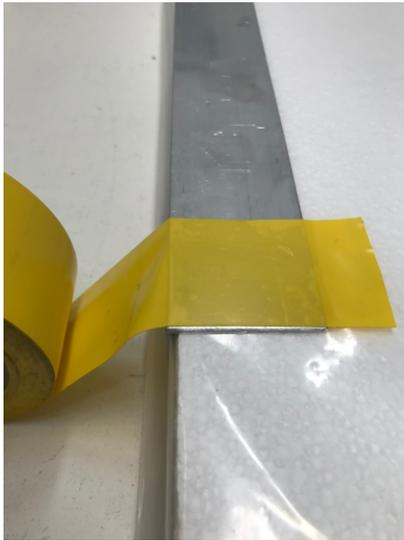

Figure 7
**Step # 4** - Use tape to secure the plate to the foam. (figure 7 & 8) The tape needs to hold the plate in place while you are stuffing it into the skin.